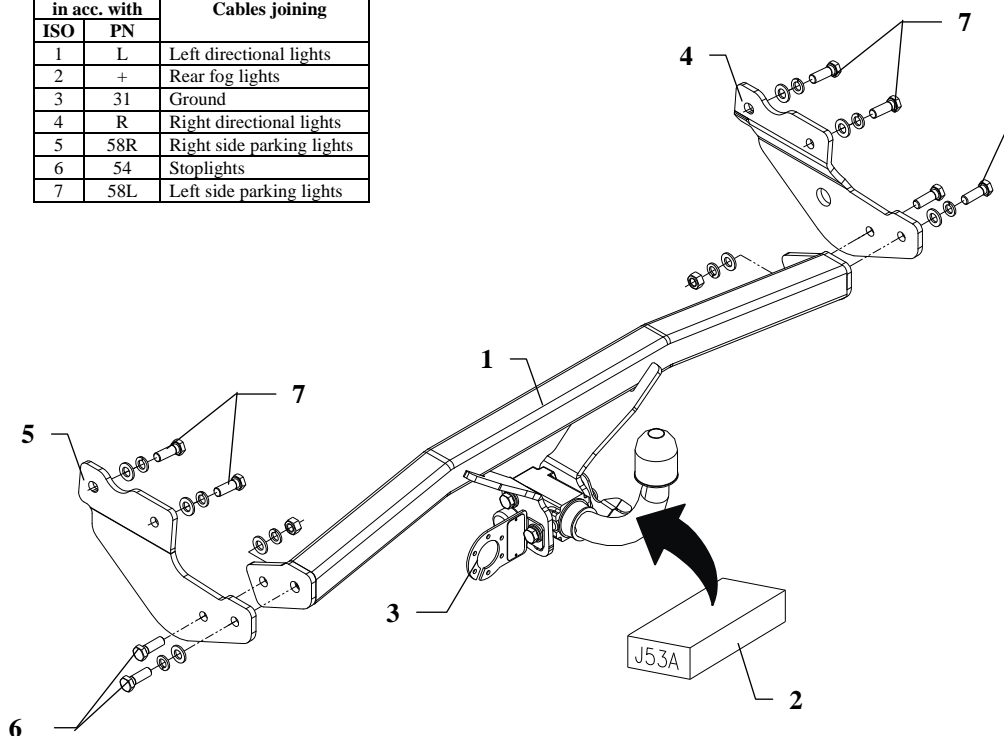

Fig. 1
4. Fix the brackets of the towbar (pos. 4 and 5) to chassis members using bolts M12x1,25x35mm (pos. 7) – loosely (see fig. 1).
5. Slip the main bar of the towbar (pos. 1) between installed brackets (pos. 4 and 5) and fix using bolts M12x35mm (pos. 6).
8. Fix body of the automat and place tow-ball according to supplied instruction. Note! Remember to place socket plate (pos. 3) as shown on the drawing 1.